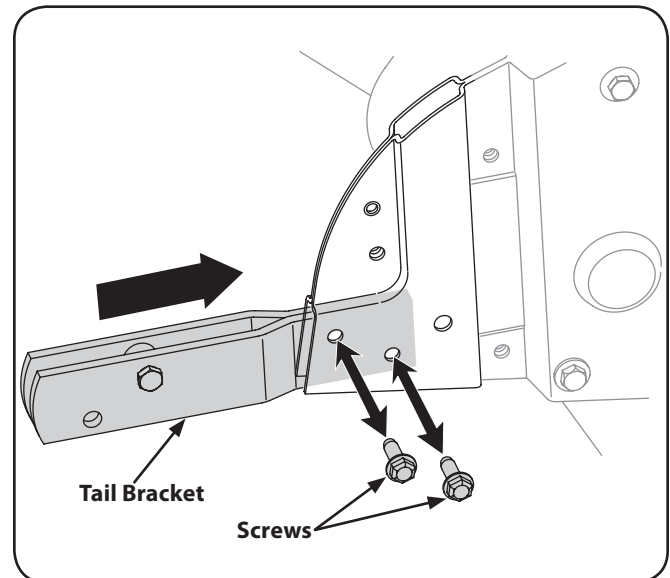

Figure 3-6
2. Remove the two screws from the tail bracket as shown in Fig. 3-6.
3. Insert the depth gage bracket into the frame and reinstall the two screws removed earlier. Tighten the hex bolts securely. See Fig. 3-6.